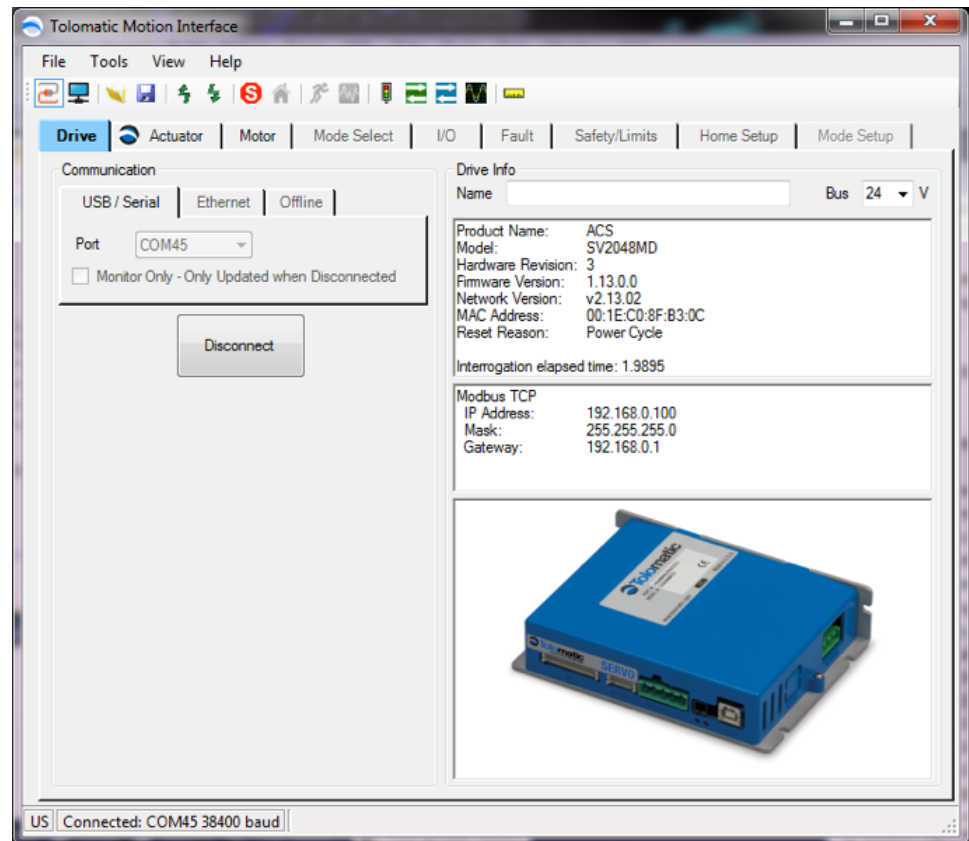

Figure 5-2: Drive Tab Showing ACS Drive Connected
3. Upon establishing communication with the ACS Drive, the TMI software reads all the current settings in the ACS Drive and updates the software interface accordingly. As shown in Figure 5-2, the ACS Drive information is displayed in several fields: Name of ACS Drive given by user; ACS Drive information including Model and Firmware Version; and a Photo of the Tolomatic ACS Drive product being configured (ACS Drive/Controller is pictured). If the ACS Drive has Network hardware the MAC address will also be displayed.